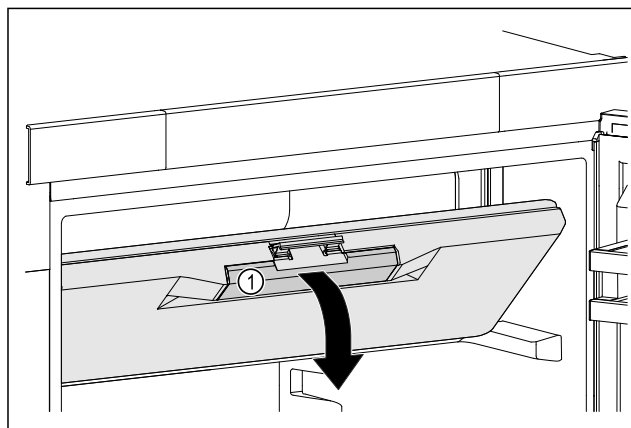

Fig. 23
► Hold the freezer compartment door by the recessed handle Fig. 23 (1).